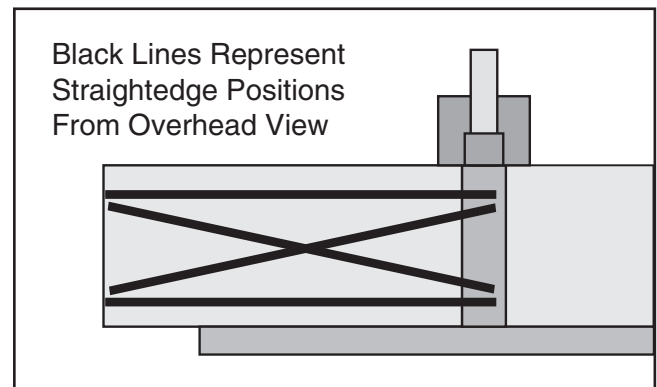

Figure 49. Straightedge positions for verifying if outfeed table is parallel with cutterhead.
5. Place the straightedge in the positions shown in **Figure 49**. In each position, the straightedge should touch the cutterhead body and sit flat on the outfeed table.
3. Place the straightedge in one of the positions shown in **Figure 49**, and adjust the table (a small hammer and punch or pin-type spanner wrench may be necessary to turn the eccentric bushings) so that the straightedge touches the cutterhead while lying flat across the outfeed table. Repeat this step with each of the remaining straightedge positions as many times as necessary until the outfeed table is parallel with the cutterhead to within 0.010"-0.012".